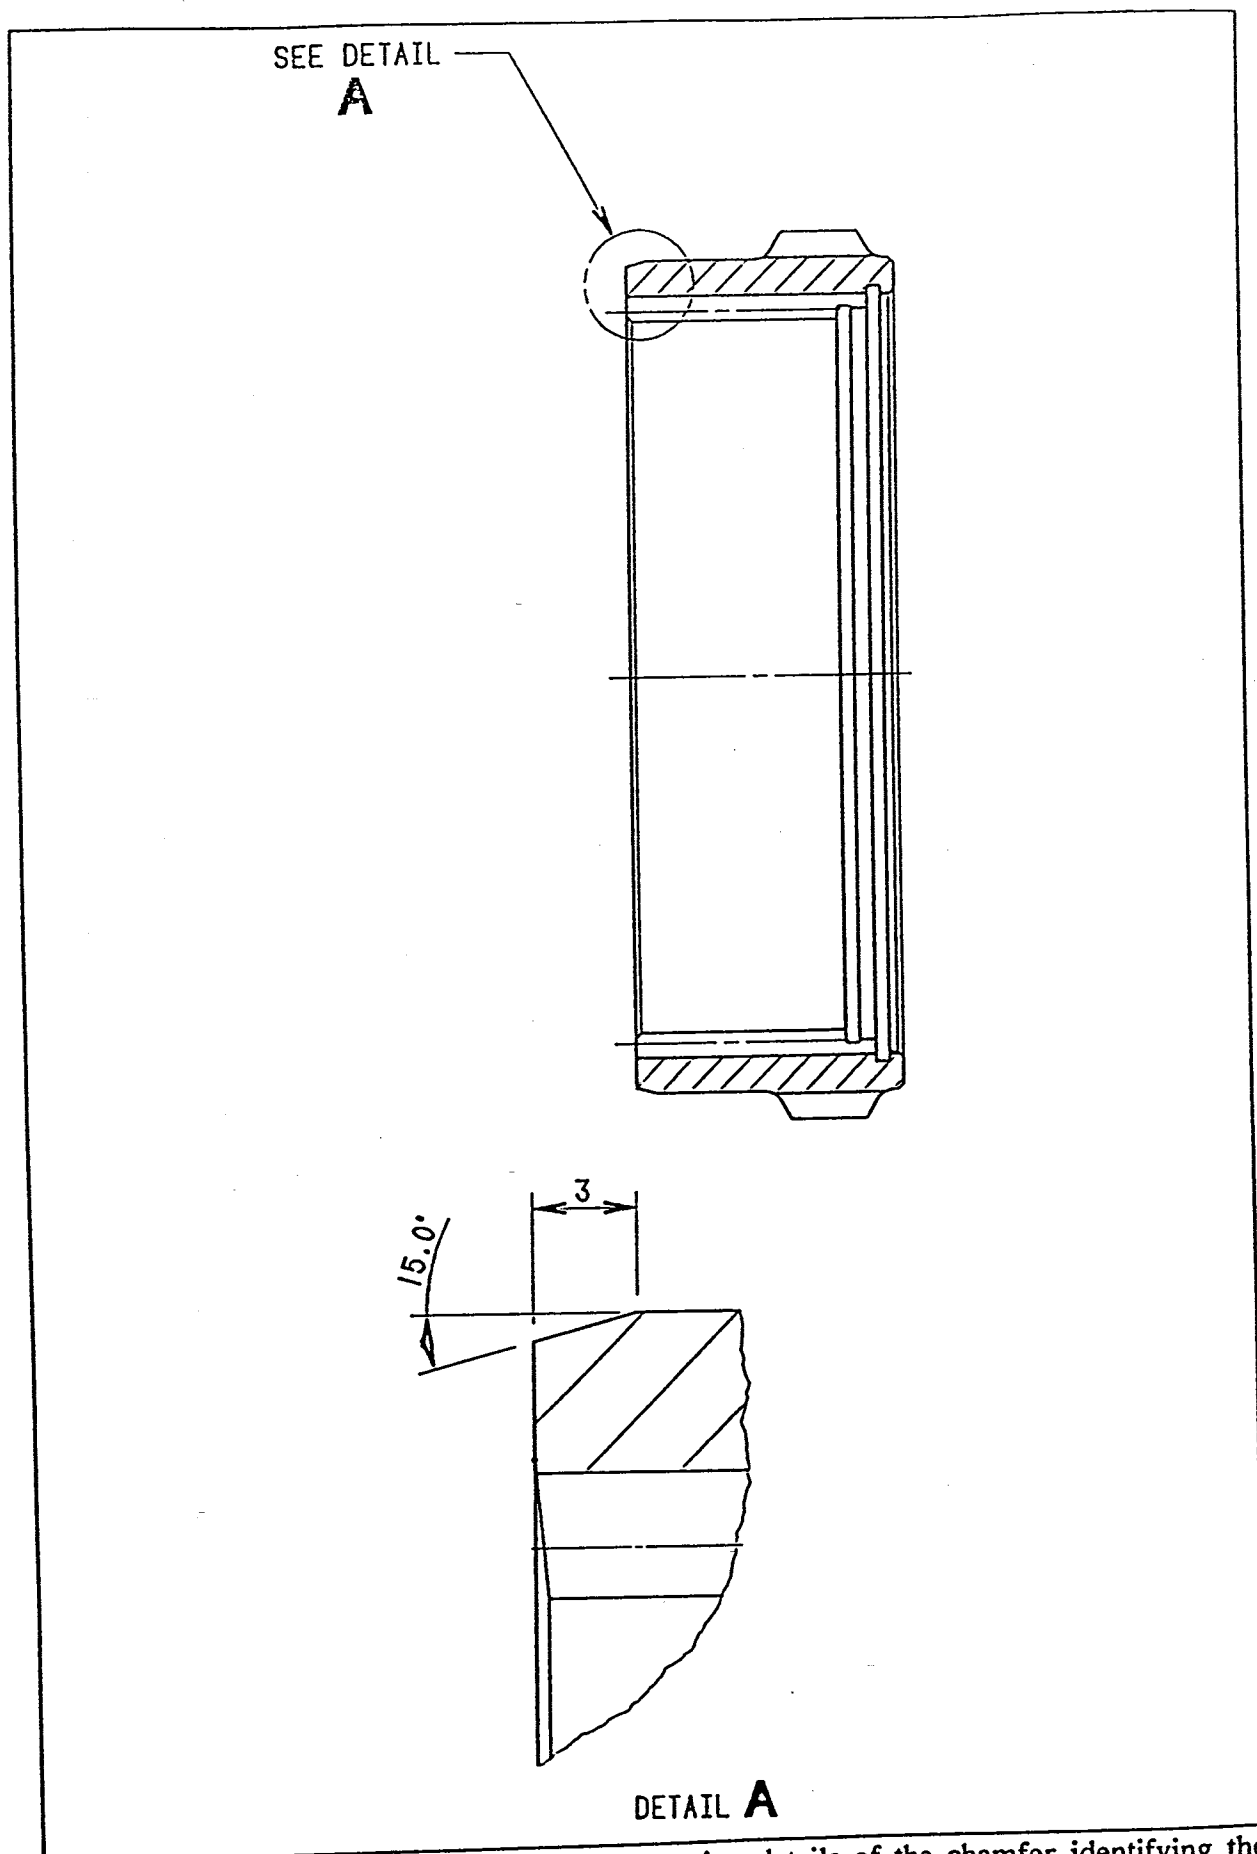

Figure 4 : Sketch of the location and construction details of the chamfer identifying the new design ring gear.
- b. The new ring gear has a large chamfer (3mm x 15°) on the outside diameter in lieu of the former production chamfer (0.8mm x 45°). Refer to Figure 4.